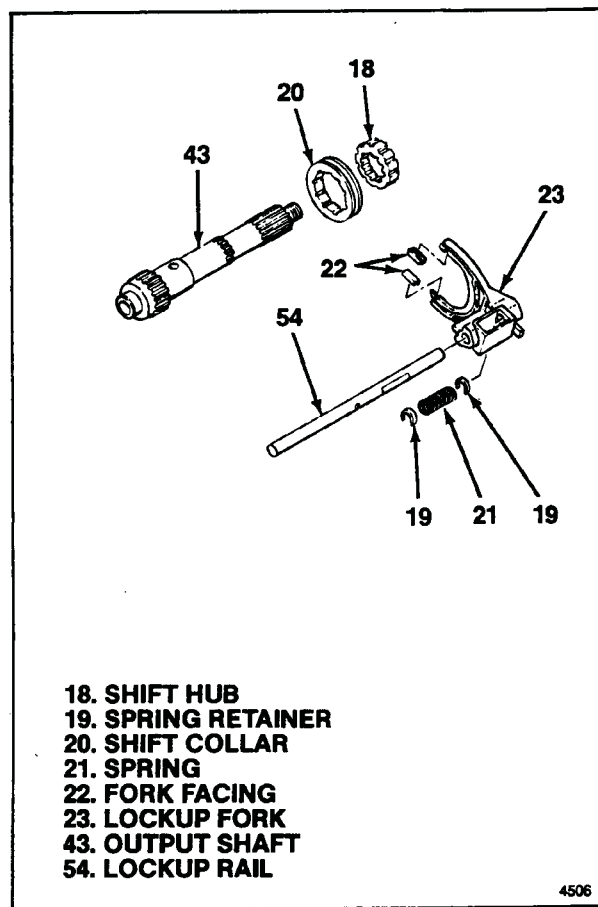

Figure 5-14. Lockup Shift Parts
5-13. INSTALLING LOCKUP SHIFT PARTS. To assembly as completed thus far (24 through 93) install parts as follows (see figure 5-14):
a. Install magnet (17) in slot in transfer case (93).
b. Apply continuous 1/16 in. (1.6 mm) bead of sealant (Silastic RTV No. 732 or General Electric Silmate RTV No. 1473) all around transfer case (93) mounting face for cover assembly (12). Center sealant bead between edges of face. Circle or lay double thickness sealant bead through bolt holes.
c. Install cover assembly (12) on transfer case (93), aligning dowel pins (92) and guiding output shaft (43, figure 5-14) through cover. It may be necessary to use screwdriver to position lockup rail (54, figure 5-14) to enter hole in cover.
e. Install speedo gear (8) over spline of output shaft (43, figure 5-14), into cover assembly (20).
f. Install two plugs (7) and torque to 10-20 lb-ft (13.6-27.1 Nm).
g. Install 4WD switch (6) and torque to 8.0-12.0 lb-ft (10.9-11.3 Nm).